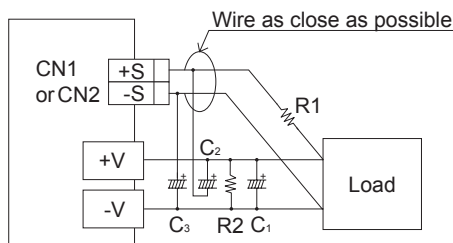

Fig. 2.4 When using remote sensing function
- Please see Fig. 2.4 if you use the remote sensing function.
- ① Wire carefully. When a connection of a load line becomes loose (due to such factors as loose screw), the load current flows to the sensing line and internal circuits of the power supply may be damaged.
- ② Use a sufficiently thick wire to connect between the power supply and the load and keep the line drop at 0.3V or below.
- ③ Use a twisted pair wire or a shielded wire as the sensing line.
- ④ Do not draw the output current from +S or -S.
- ⑤ When the remote sensing function is used, the output voltage of the power supply may show an oscillating waveform or the output voltage may dramatically fluctuate because of an impedance of wiring and load conditions.